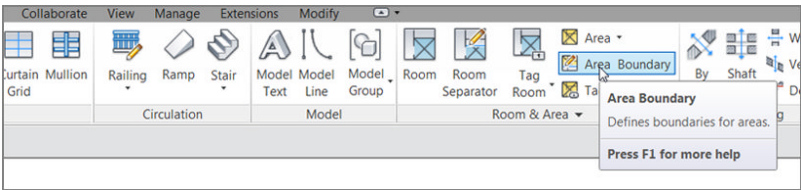

FIGURE 15.24: Clicking Area Boundary
- 5. On the Room & Area panel, click the Area Boundary button, as shown in Figure 15.24.